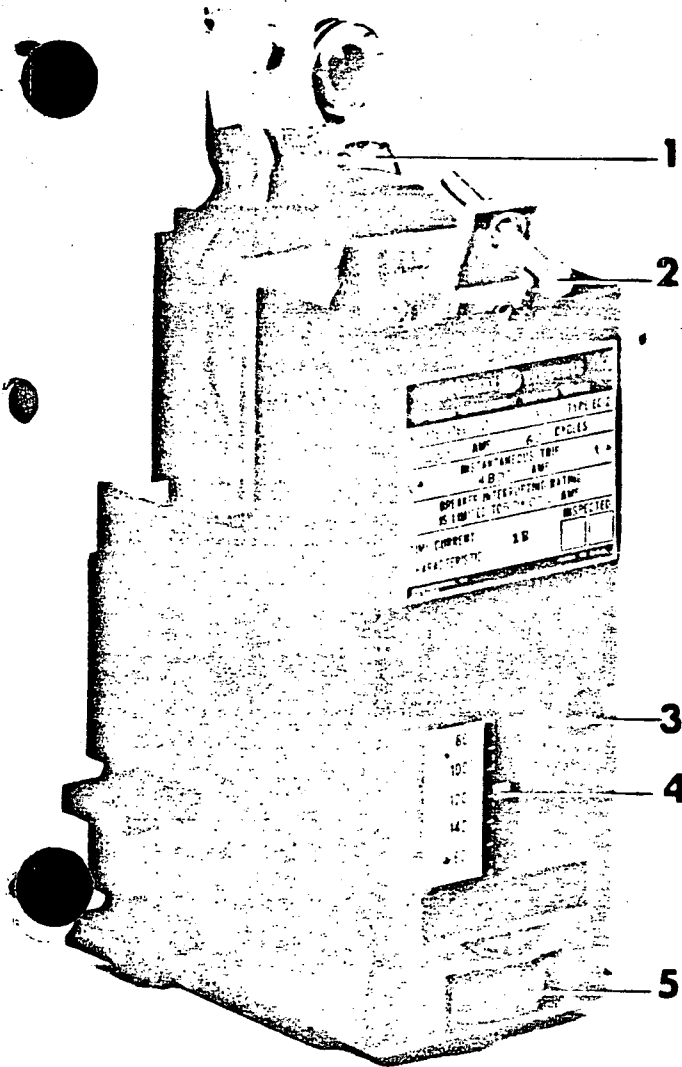

Figure 10. (8024842) EC-2 Overcurrent Trip
By means of the adjustment knob (5), Figure 10, which can be manipulated by hand, the current pick-up point can be varied from 80 to 160 percent of the series coil rating. The indicator and a calibration plate (4), Figure 10, on the front of the case provide a means of indicating the pick-up point setting in terms of percentage of coil rating. The calibration plate is indexed at percentage settings of 80, 100, 120, 140 and 160.
Positive tripping is achieved when adjustment screw (2), Figure 10, is in such a position that it will always carry the trip paddle on the trip shaft beyond the point of tripping the mechanism, when the armature closes against the magnet.
In order to make the adjustment, first unscrew trip screw (2), Figure 10, until it will not trip the breaker even though the armature is pushed against the magnet. . Then, holding the armature in the closed position, advance the screw until it just trips the breaker. After this point has been reached, advance the screw two additional full turns. This will give an overtravel of 1/16 of an inch and will make sure that activation of the device will always trip the breaker.
Adjustment screw (2), Figure 10, can best be manipulated by an extended 1/4 inch hex socket wrench.
The low-set instantaneous pick-up point may be varied by the adjustment knob (5), Figure 10. The calibration in this case usually ranges from 80% to 250% of the series coil rating, the calibration plate being indexed at values of 80%, 100%, 200% and 250% of the rating.